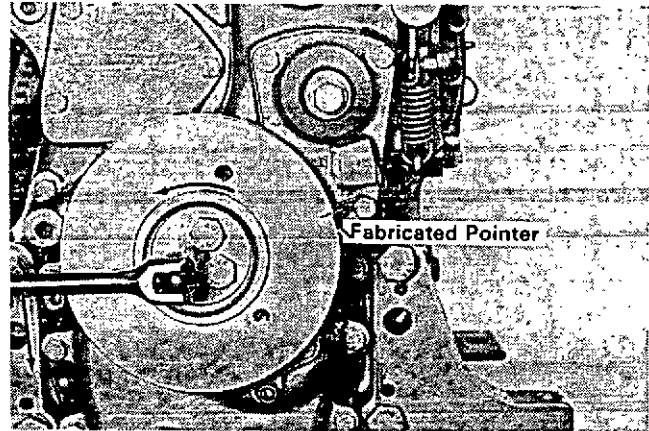

Figure 2
- g. Rotate the crankshaft counterclockwise until the piston LIGHTLY contacts the valve. Using the reference pointer, mark the front crankshaft pulley. See Figure 2. (On D 302-1, mark the flywheel.)